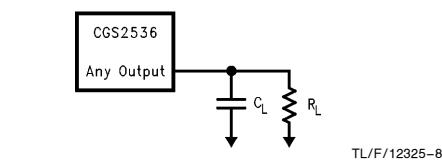

FIGURE 3. A.C. Load (Reference Notes 5, 6)
**Note 5:** These Rise and Fall times are measured with  $C_L = 50 \text{ pF}$ ,  $R_L = 500\Omega$  (see *Figure 3*).
**Note 6:** These Rise and Fall times are measured with  $C_L = 25 \text{ pF}$ ,  $R_L = 500\Omega$  (see *Figure 3*), and are guaranteed by design.